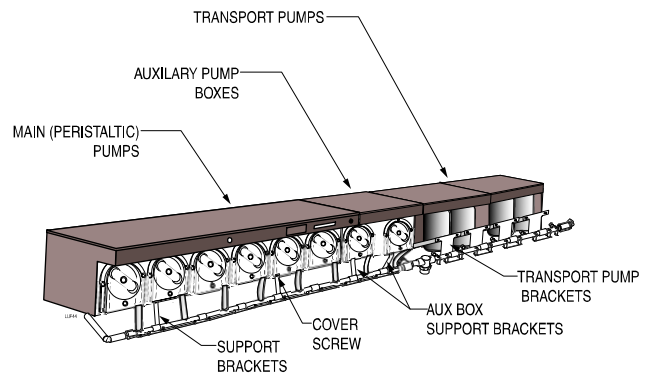

Figure 8.3. Complete Manifold Installation
3. Attach manifold support bracket (#1) under the screws for main module pumps 2 and 5 (see Figure 8.3). Add long metal bracket (#2).
5. Attach manifold brackets (#23) to transport modules (see Figure 8.3). Every other bracket attaches to two modules, connecting them together; hold the bracket over the screw holes and you will see the holes line up. The first bracket attaches to the right side of the initial pump module and then to the left-hand side of the next module.